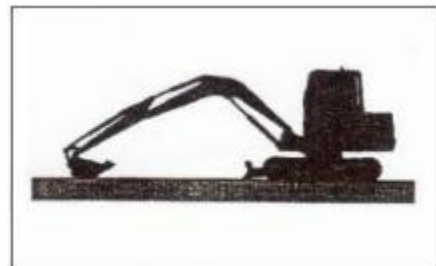

Fig 3—52
4. Put the safety lever (Figure 3--54) in the "lock" position.